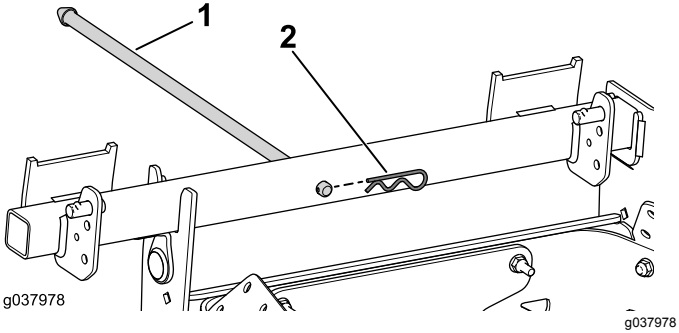

Figure 17
1. Install hold-down rod to the pivot assembly (Figure 17).
2. Use the hairpin cotter to secure the rod into the pivot assembly (Figure 17).